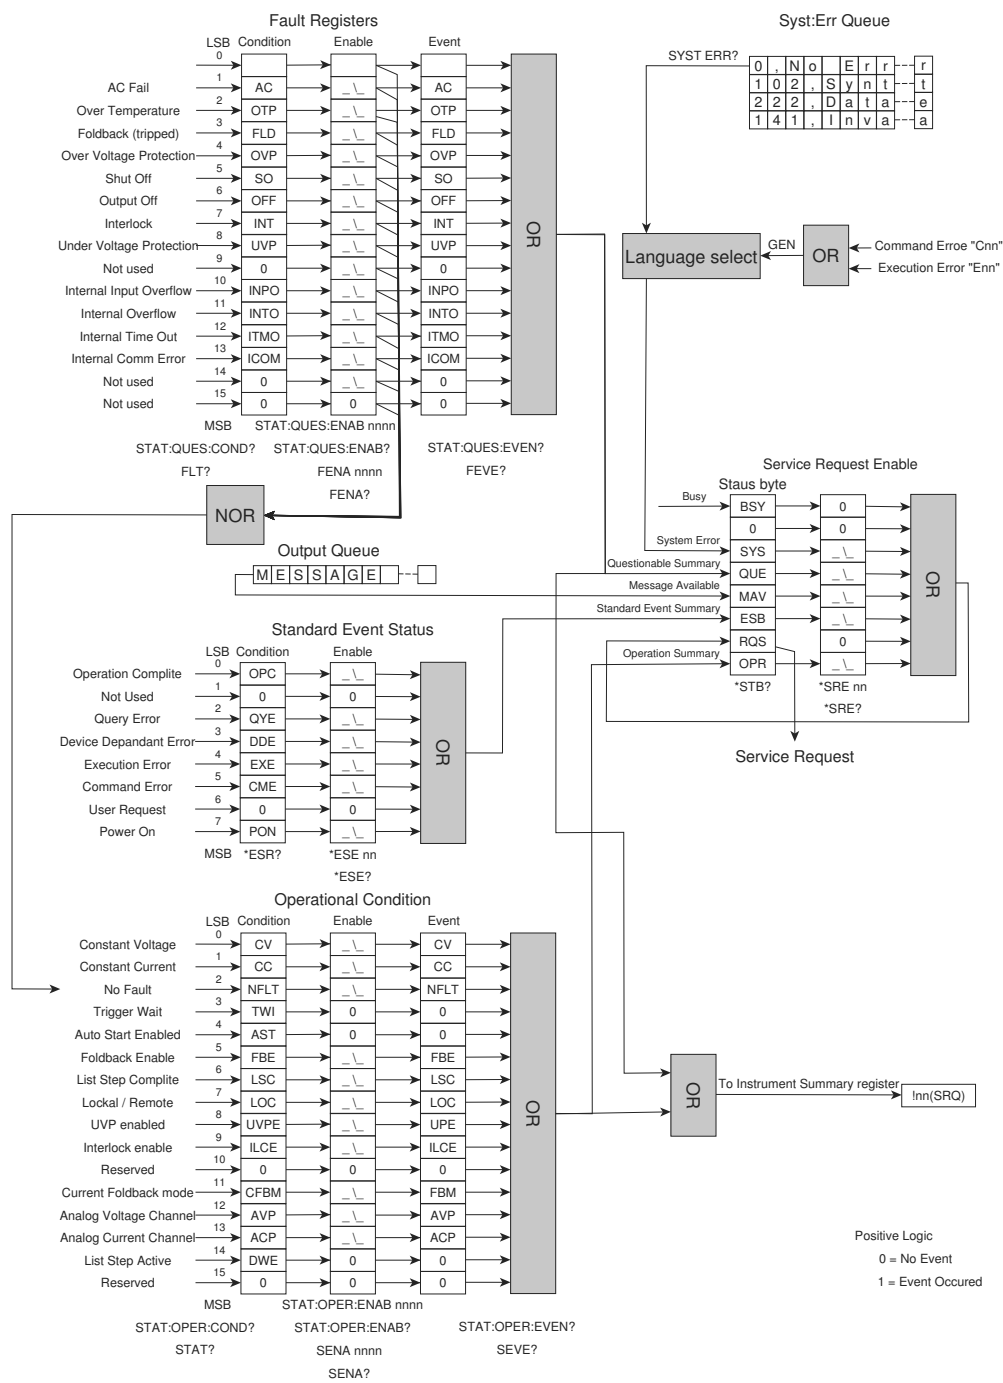

Fig.4-1: Status Register and SRQ Tree
2. Select “Devices and Interfaces” -> “GPIB0” press Scan for Instruments. Refer to Fig.4-1